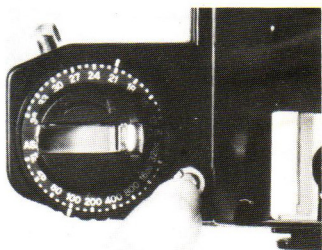
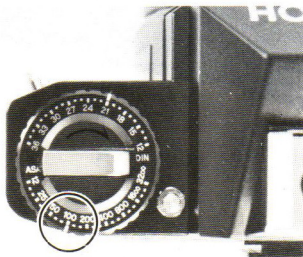

Fig. 10
Fig. 11
1. Depress Film Speed Lock Button (4) (Fig. 10) and rotate the outer ring of Film Speed Dial (3) until the ASA (or DIN) number of your film is exactly opposite the index line on the outer ring of Film Speed Dial (3) and click stops. For example, if the film is ASA 100, make the correct setting at "100" (Fig. 11).